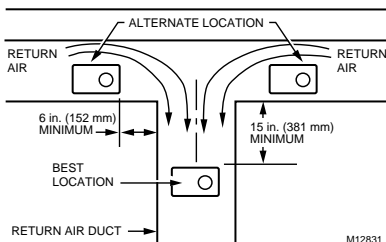

Fig. 2. Selecting duct location for control.
If mounting near an elbow area, keep the control 6 in. (152 mm) upstream from the elbow so the element is exposed to the normal airflow (Fig. 2).
1. Locate the control at least 8 in. (203 mm) upstream from the humidifier in the return air duct. See Fig. 2.